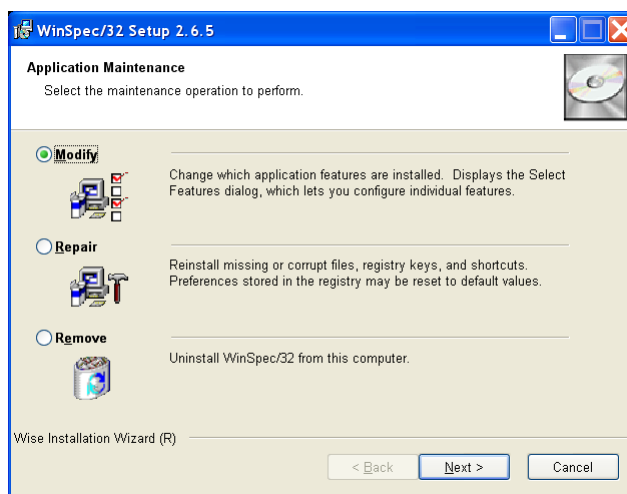

Figure 207. Application Maintenance dialog
3. Because WinSpec/32 was previously installed, the **Application Maintenance** dialog (Figure 207) will be displayed.